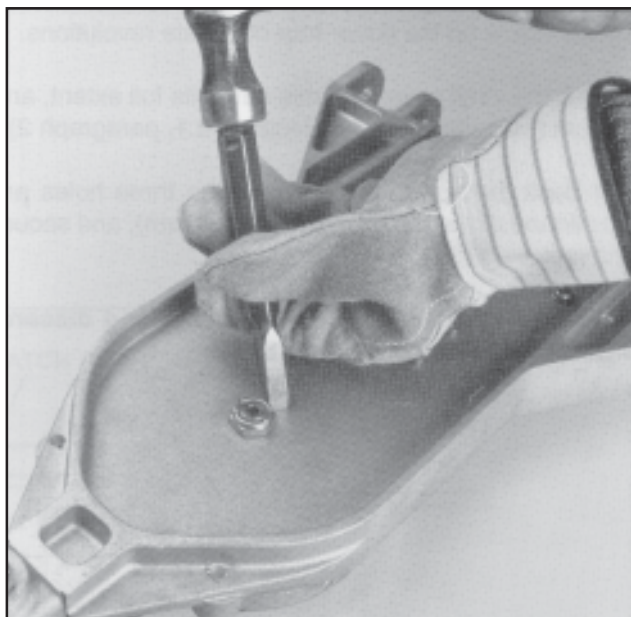

Fig. 31: Make a burr to secure the tightened nut.
7) Use a chisel to make a burr to prevent the locking nut from loosening. "Loctite" may also be used. See Fig. 31.